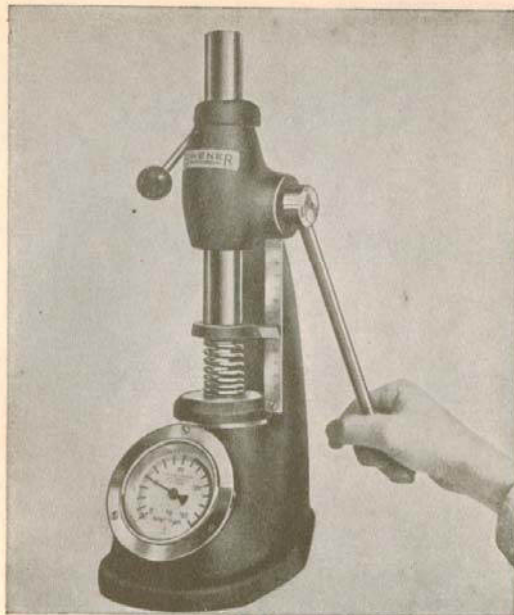

Fig. 1-37. Spring testing
1. Check that the parts are in good condition and clean. Check that the springs hold the valves shown in the specifications. See also Fig. 1-37.